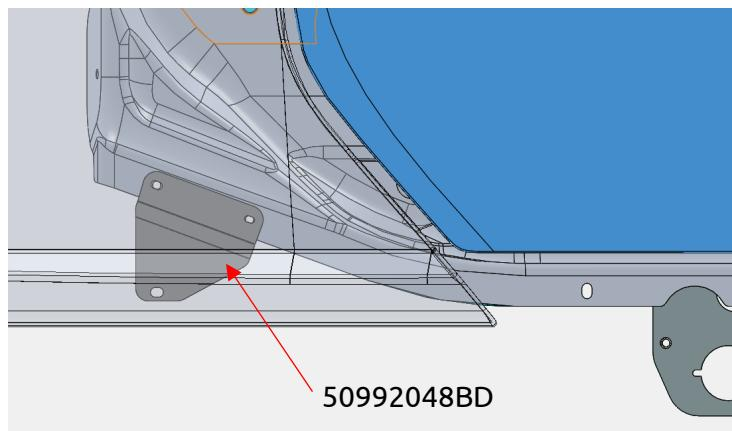

Fig. 1 – 50975003BD/BP Location (Driver Side Shown)
- a. Install the 50992048BD/BP (BD on the driver side and BP on the passenger side) bracket using the two existing holes in the pinch weld located behind the cab cowl panel (Fig. 1). The bracket goes on the outer side of the pinch weld and is fastened with the supplied 10-32x1" truss head screws, large zinc washers, and locknuts. Do not fully tighten the hardware yet as some adjustment may be needed.